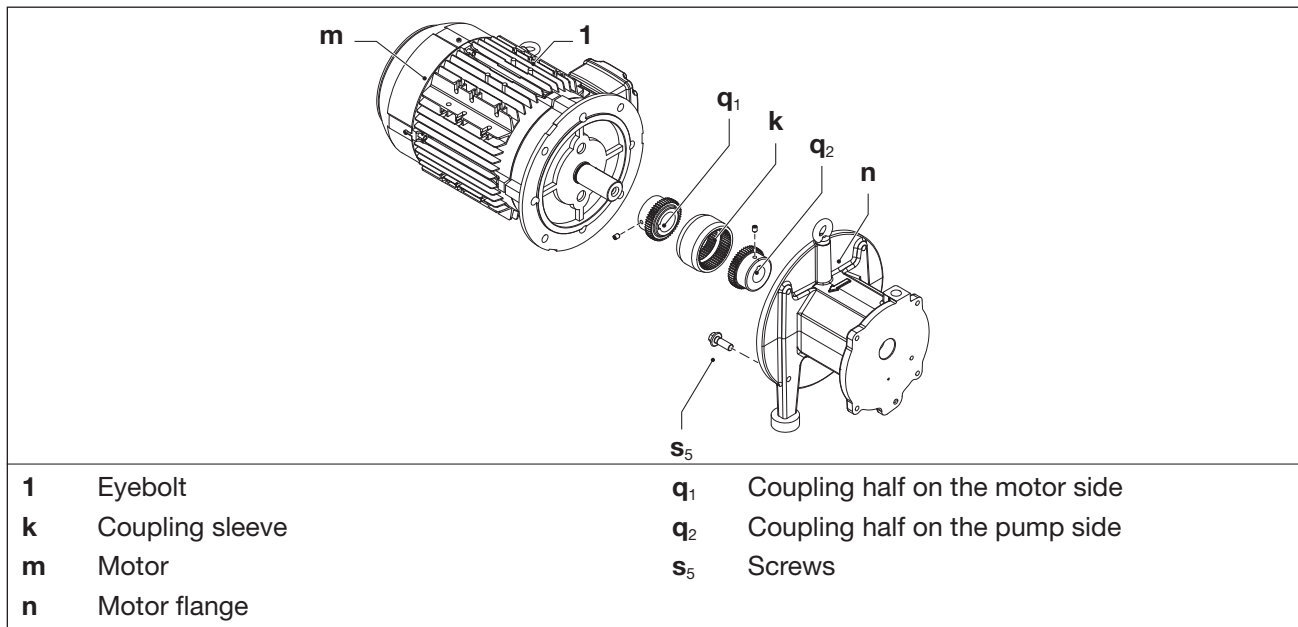

Fig. 10 Coupling
The coupling sleeve (Fig. 10/k) is subject to wear and must be checked regularly (at least 1 x per year).
- a) To check the coupling, switch off the motor (Fig. 10/m) and ensure that it cannot be switched on again.
- b) Tighten the eyebolt on the motor (Fig. 10/1) firmly.
- d) Undo the screws (Fig. 10/s5) on the motor flange (Fig. 10/n).
- e) Remove the motor axially with the coupling half (Fig. 10/q1) on the motor side from the motor flange (Fig. 10/n) and suspend with the lifting gear.
- f) Check the sleeve (Fig. 10/k) for damage and replace if necessary.
- g) Push the sleeve and motor with coupling half on the motor side again axially and using bolts (Fig. 10/s5) fix to the motor flange (Fig. 10/n). Tightening torque: 90 Nm